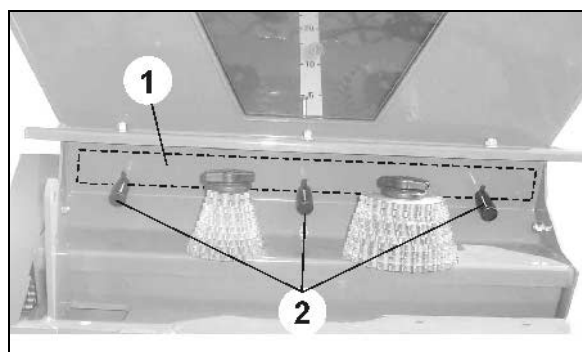

Fig. 40
4. Slacken the bolts(Fig. 40/2), move shutter slide upwards and open in this way, re-tighten the bolts.